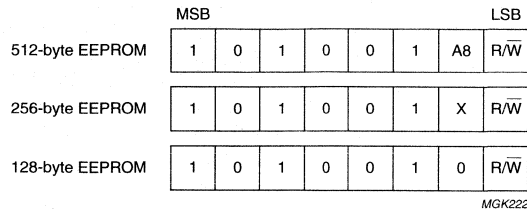

Fig.14 Slave address format for the EEPROM.
The EEPROM is accessed with an I²C Start (S) condition, followed by a 7-bit slave address and a control bit ($\overline{R/\overline{W}}$). Upon successful decoding of the address, the EEPROM answers with an I²C Acknowledge (A). Figure 14 shows the slave addresses for the different EEPROM sizes.